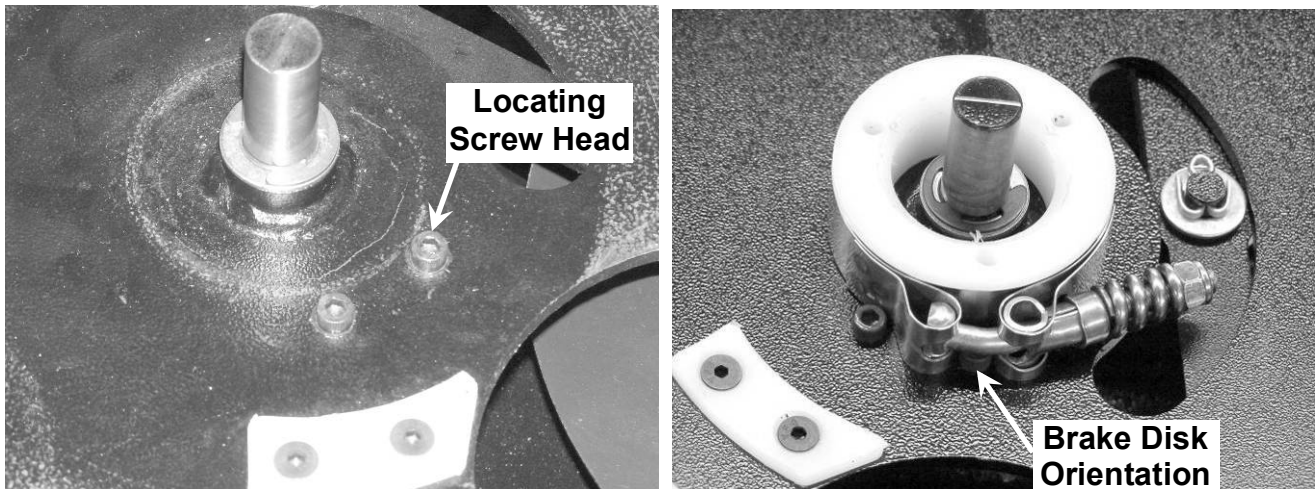

Figure 8 – Brake Disk Locating Screw and Brake Disk Orientation
1. Slide the magazine over the magazine shaft and align the gap in the brake disk clamp on the bottom of the magazine so that it falls over the locating cap screw head on the magazine plate. (FIGURE 8) NOTE: Brake disk is shown separated from bottom of magazine for clarity.